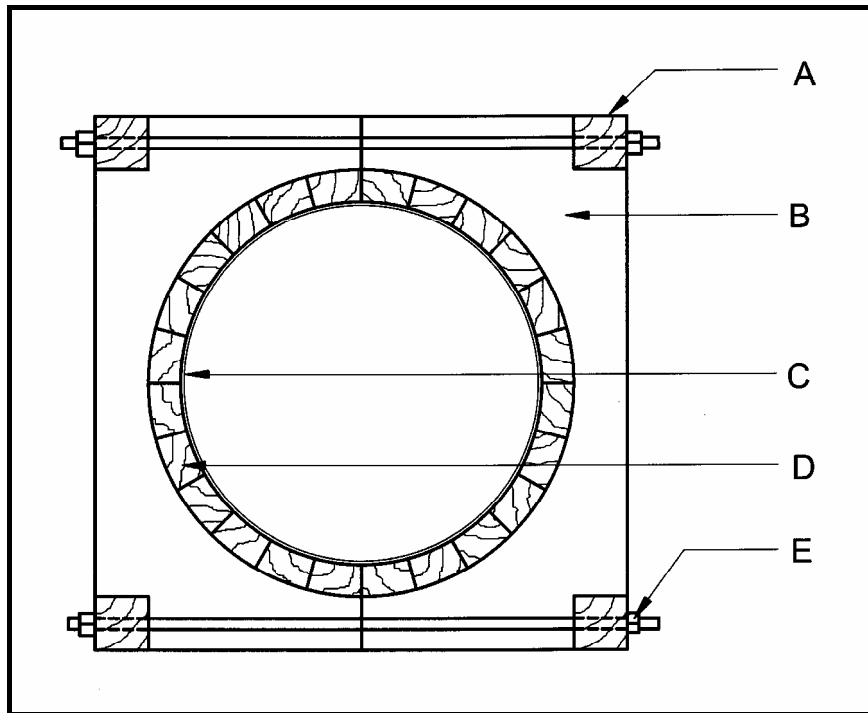

FIGURE 2.8
2.8 FIGURE 2.8 below shows the formwork for a round concrete column. Write the letters A to E in your ANSWER BOOK and next to them the names of the parts. Choose the answers from the list below.